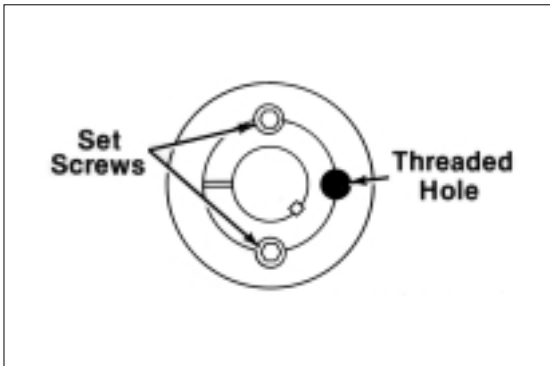

Figure 4 - Motor Pulley Removal & Installation
- b. Insert a set screw into the threaded hole and tighten. This will loosen the bushing, Fig. 4.
- c. Oil the set screws and thread them into the holes indicated in Fig. 4.